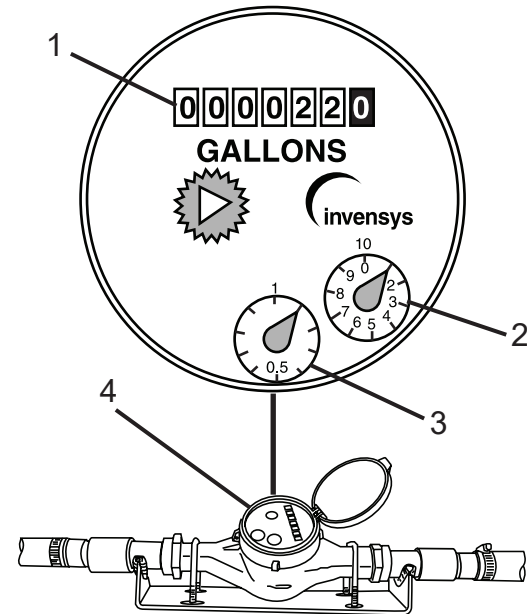

Figure 127
The Precision PMM™ water meter (Figure 127, Item 4) is installed directly in the water supply line to monitor the amount of water used.
- a. Record the reading from the counter (Figure 127, Item 1), in this case 220 gallons (833 liters).
- b. Add the reading from the sweep hand on the “10” counter (Figure 127, Item 2), in this case 1 gallon (3.8 liter).
(tenths of a gallon) counter (Figure 127, Item 3), in this case 0.1 gallon (0.4 liter). The actual reading of the meter is 221.1 gallons (836 liters).